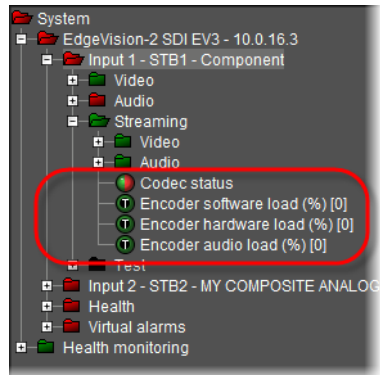

Figure 3-5 EdgeVision Streaming alarms: Encoder-related
--- Encoder-related alarms (see Figure 3-5 , on page 34) ---